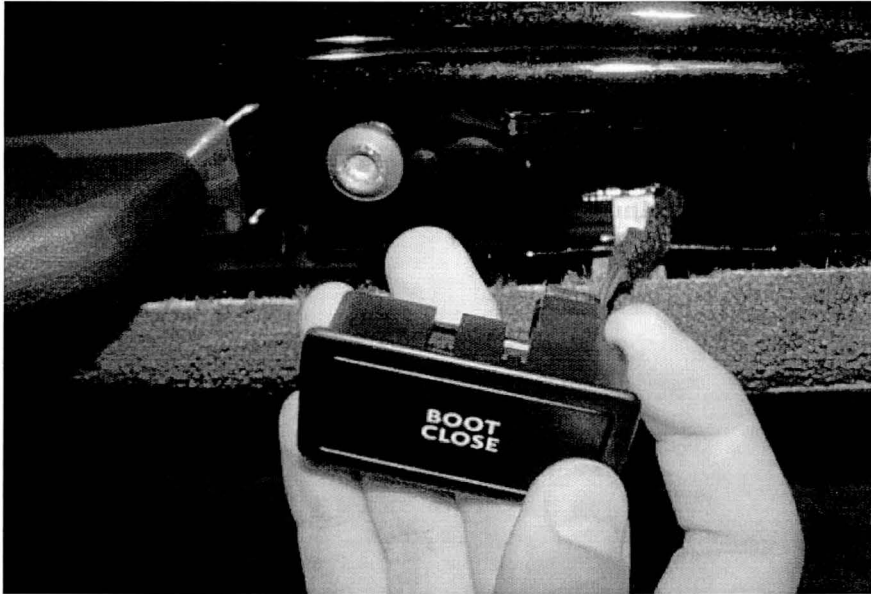

Figure 2
4. Reconnect the switch to the electrical connection (Figure 2) allowing the switch to hang in free air